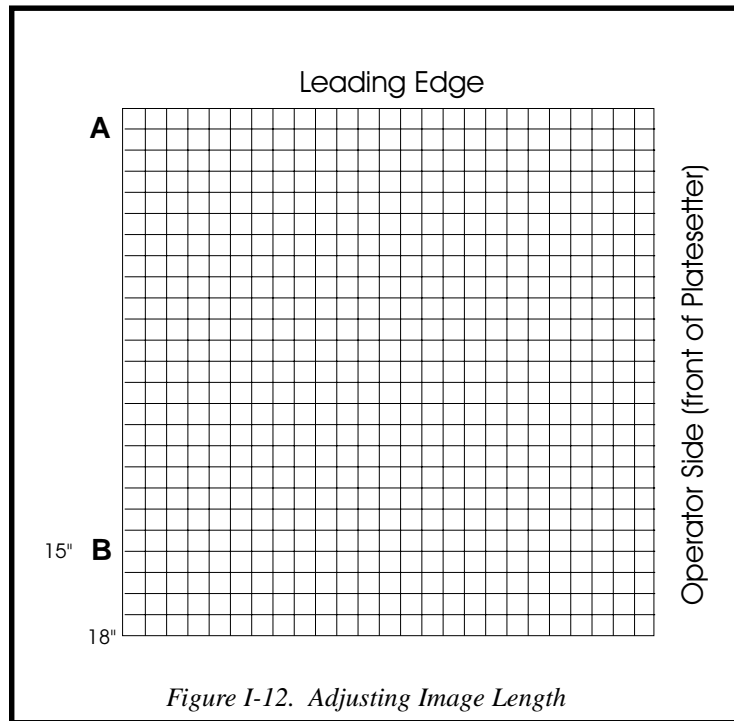

Figure I-12. Adjusting Image Length
2. Measure the distance between points A and B (see Figure I-12). Use a precision steel ruler or digital measuring device to check this distance (a digital measuring device is more precise).